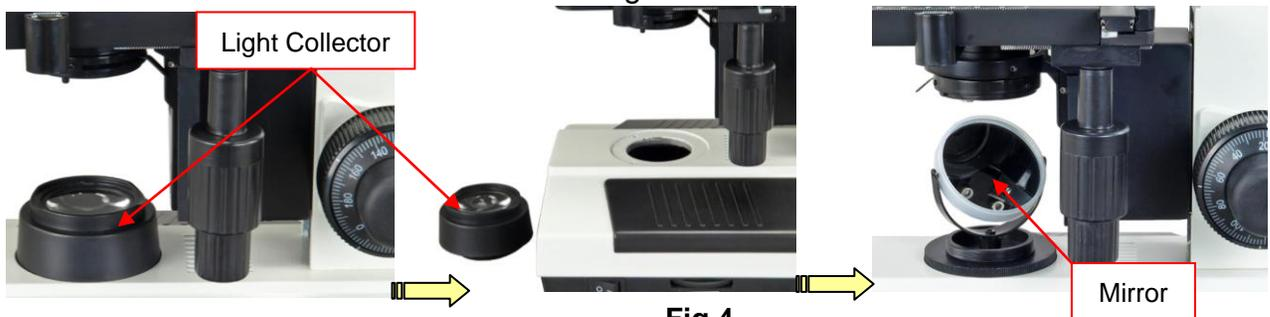

Fig.4
- 3) Screw the black disc onto the base and then insert the mirror into the hole at the center of the black disc. See **Fig. 4**. You may try to get reflected ambient light on either side of the mirror with different angles for best result.